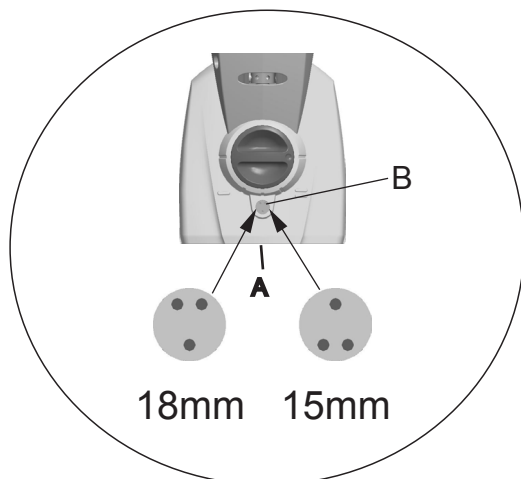

Fig. 4
- With a 2,5 mm allen key, unscrew locking screw (A) two turns.
- With a screw driver, adjust screw (B) to 15 or 18 mm leg length (Fig. 4)